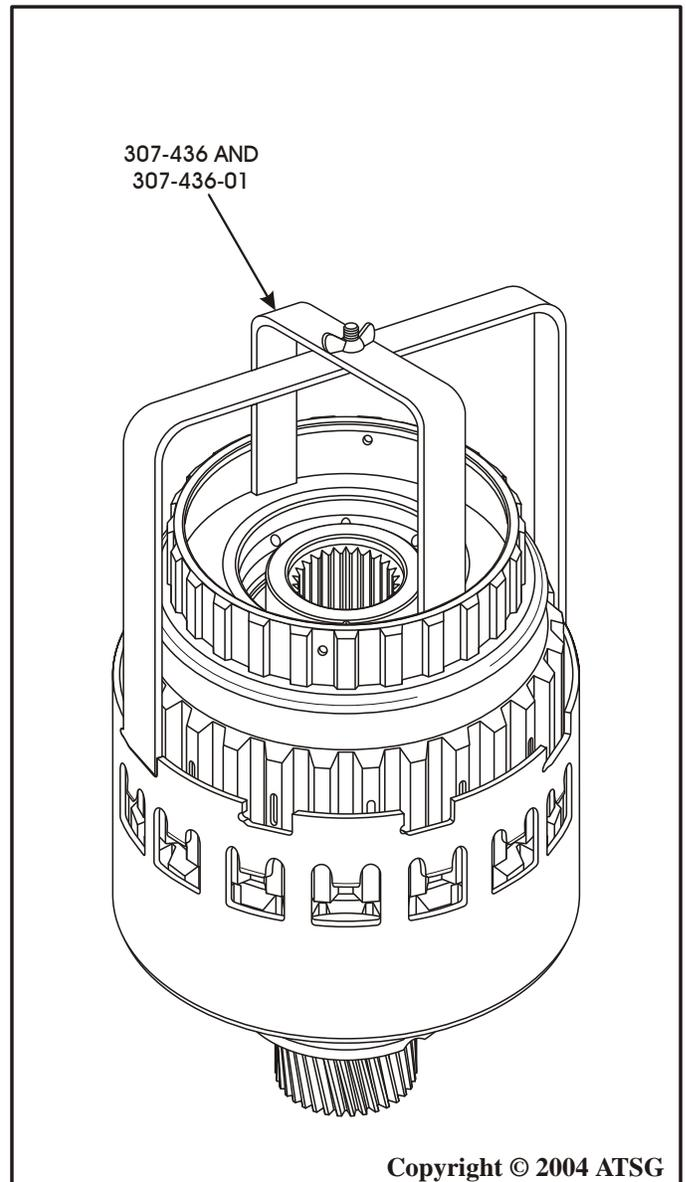

Figure 150
8. While holding the assembly together, turn it over so that the assembly is setting on the sun gear, as shown in Figure 150.
9. Install special tools 307-436 and 307-436-01, as shown in Figure 150.